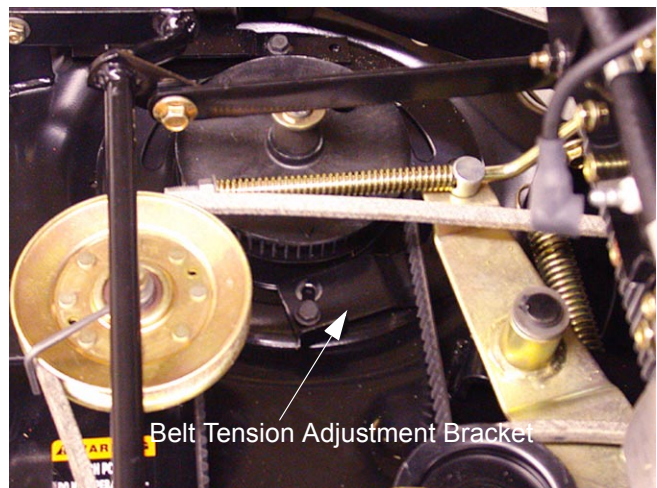

Figure 42
- 13.2. Using a ½ inch socket loosen the screw securing the belt tension adjustment bracket and turn it out of the way. See Figure 42.